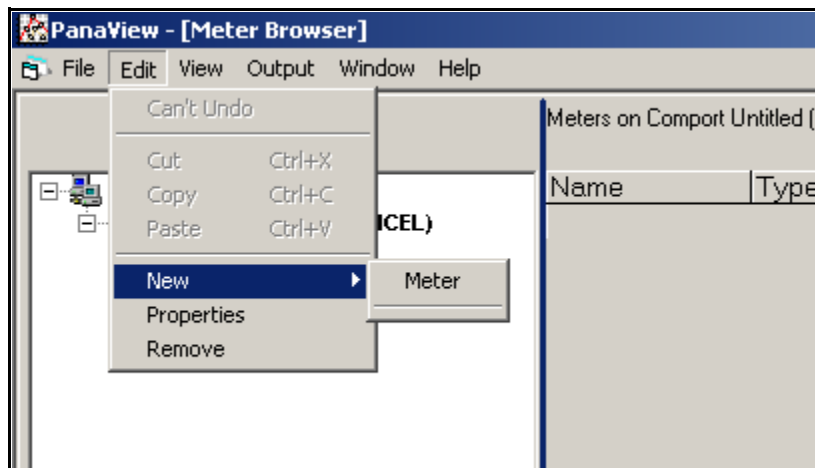

Figure 79: “*New*” Option in the “*Edit*” Menu
2. Click on the “*New*” option in the “*Edit*” menu (see *Figure 79* below).